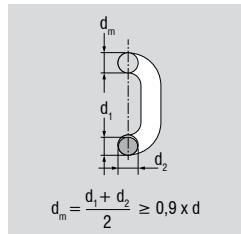

Fig. 11: Thickness loss of chain link
- Average thickness loss of the chain link anywhere in the device by >10 % (Fig. 11)